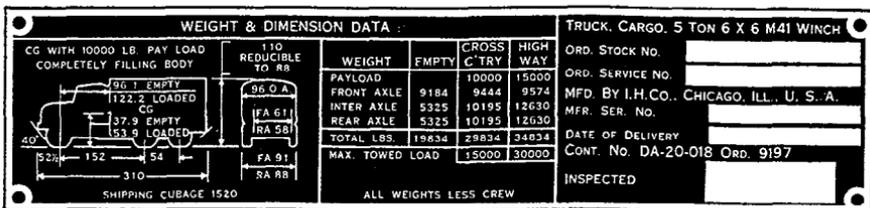

Figure 14. Truck nameplate—model M41.
a. Truck nameplate. This plate (fig. 14), mounted on the instrument panel to the right of the instrument cluster (H, fig. 65), lists vehicle weight and dimension data, load weight data, and vehicle
identification data. Figure 14 illustrates the nameplate for the cargo truck M41 only. Corresponding data for other vehicles covered by this manual are contained in paragraph 7.